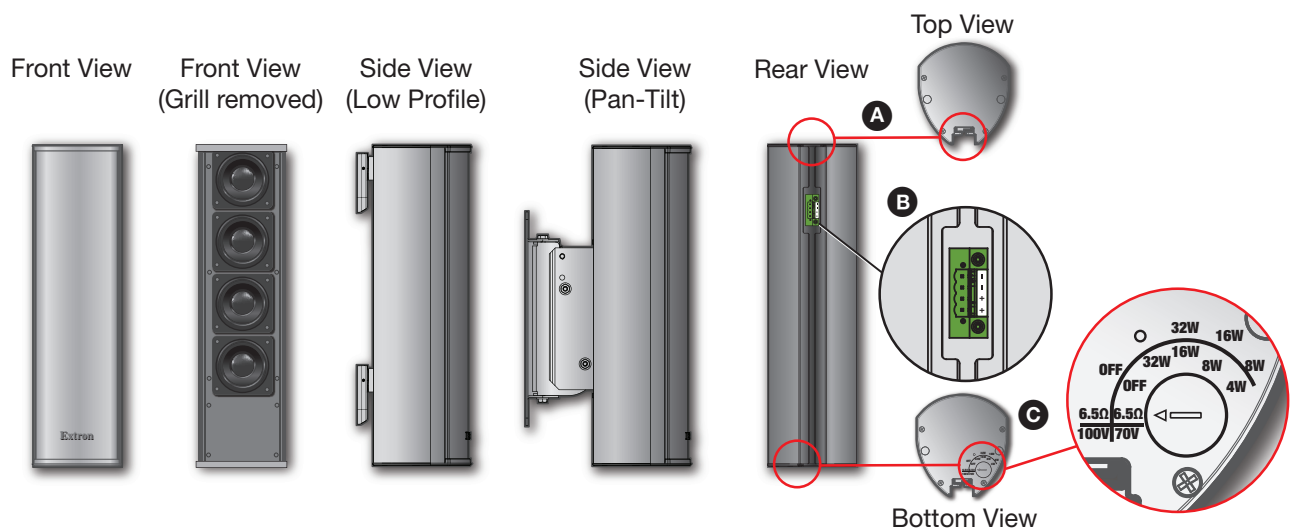

Figure 1. CA 43T Product Diagram
- A Mounting Bracket T-slot (see figure 1)** — Runs the entire length of the speaker enclosure. Carriage Bolts (for the SMK LP CA) or Anchor Plates (SMK PT CA) can slide in through either end to the desired locations. Secure and re-adjust if needed.